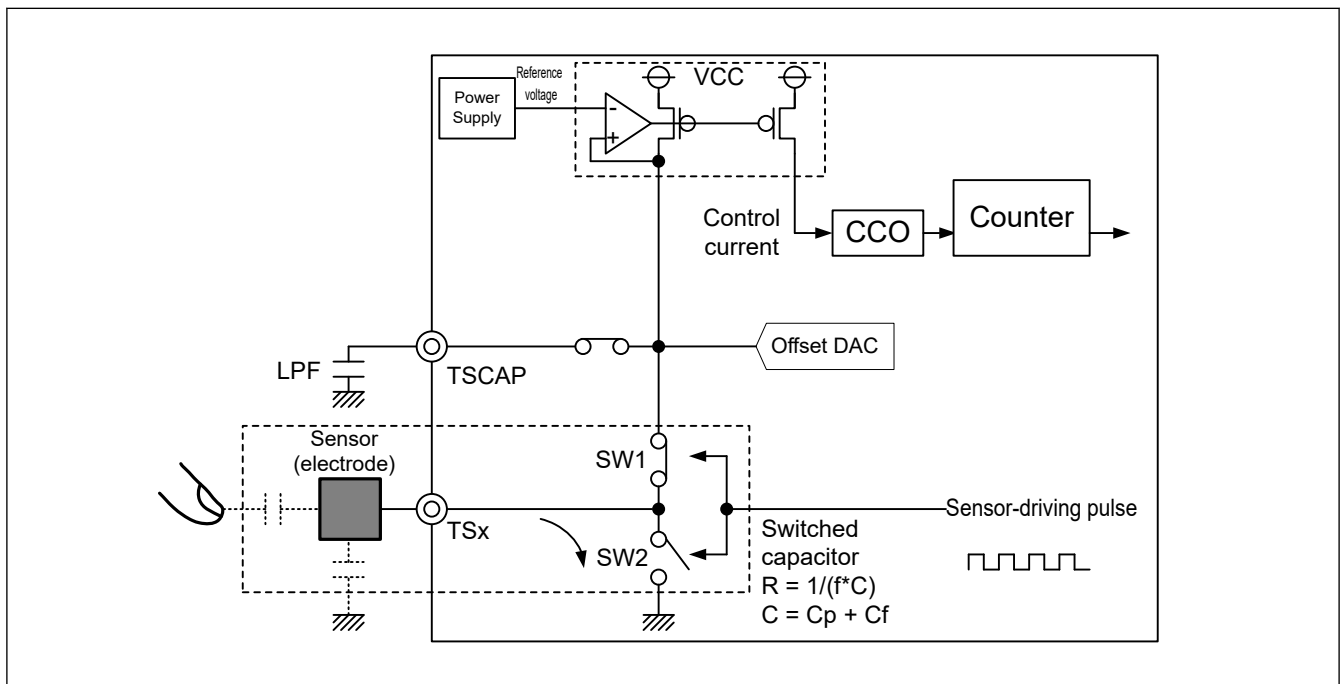

Figure 32.6 Self-capacitance discharging operation
2. The charged capacitance is discharged by turning SW1 off and SW2 on (Figure 32.6).